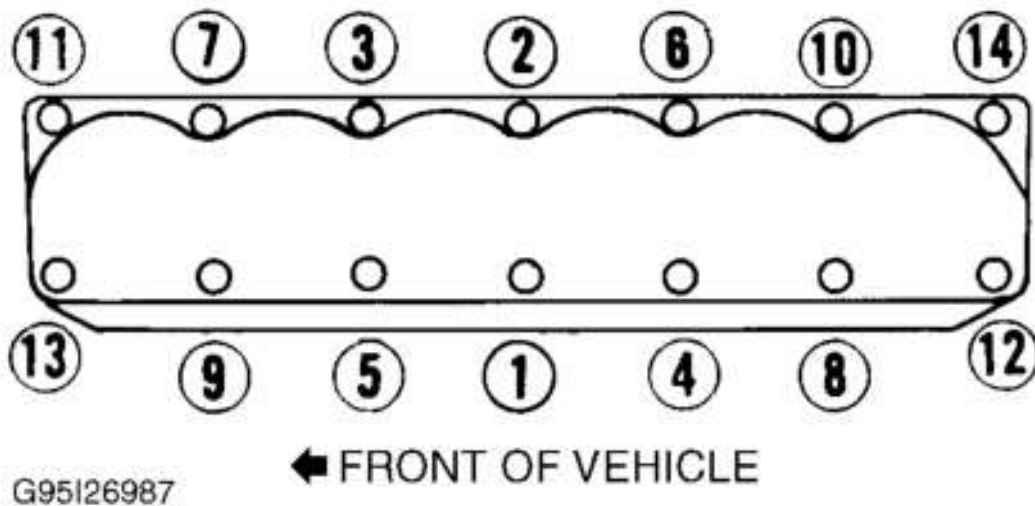

Fig. 4: Cylinder Head Bolt Tightening Sequence
2. Tighten head bolts in sequence to specification. Refer to **Fig. 4** . See **TORQUE SPECIFICATIONS**. Lubricate push rod ends, rocker arm fulcrum seats and sockets with multipurpose grease. To complete installation, reverse removal procedure.